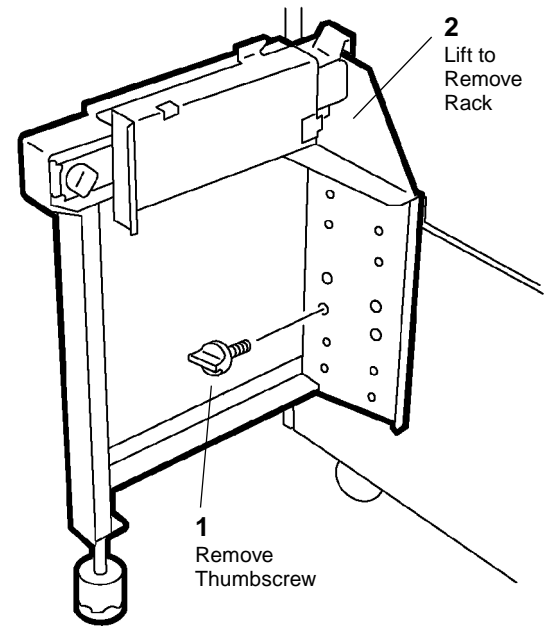

Figure 4 Removing Front Rack
5. Remove Front Rack (Figure 4).